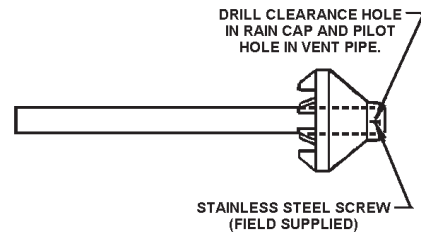

FIGURE 23.
- Cement rain cap to smaller diameter kit pipe, see Figure 23.
NOTE: Instead of cementing the smaller pipe to the rain cap, a field-supplied stainless steel screw may be used to secure the 2 components together when field disassembly is desired for cleaning, see Figure 23.
- Cement the rain cap to the smaller diameter kit pipe, see Figure 23.